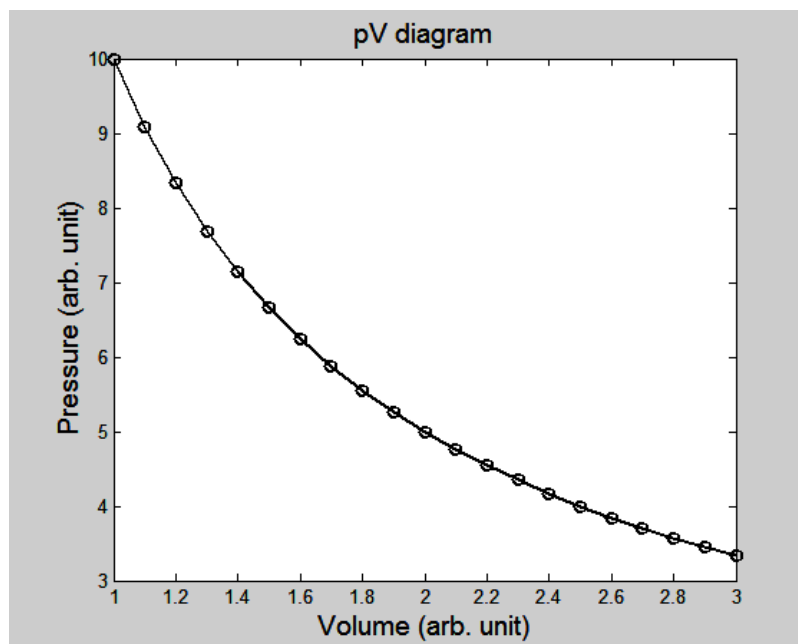

Figure 1. The pV diagram at constant temperature.
When temperature T is kept constant, the product of pressure p and volume V for a certain amount of gas is constant, which is called Boyle's law, discovered by British scientist Robert Boyle in 1662 by experiment. That is: $p_1V_1 = p_2V_2 = p_3V_3 = \dots$. The pV diagram is like figure 1.
8. Continue this process to get data for volumes of 35 cc, 30 cc, 25 cc, and 20 cc. You should see a graph like Fig. 1 in this manual.